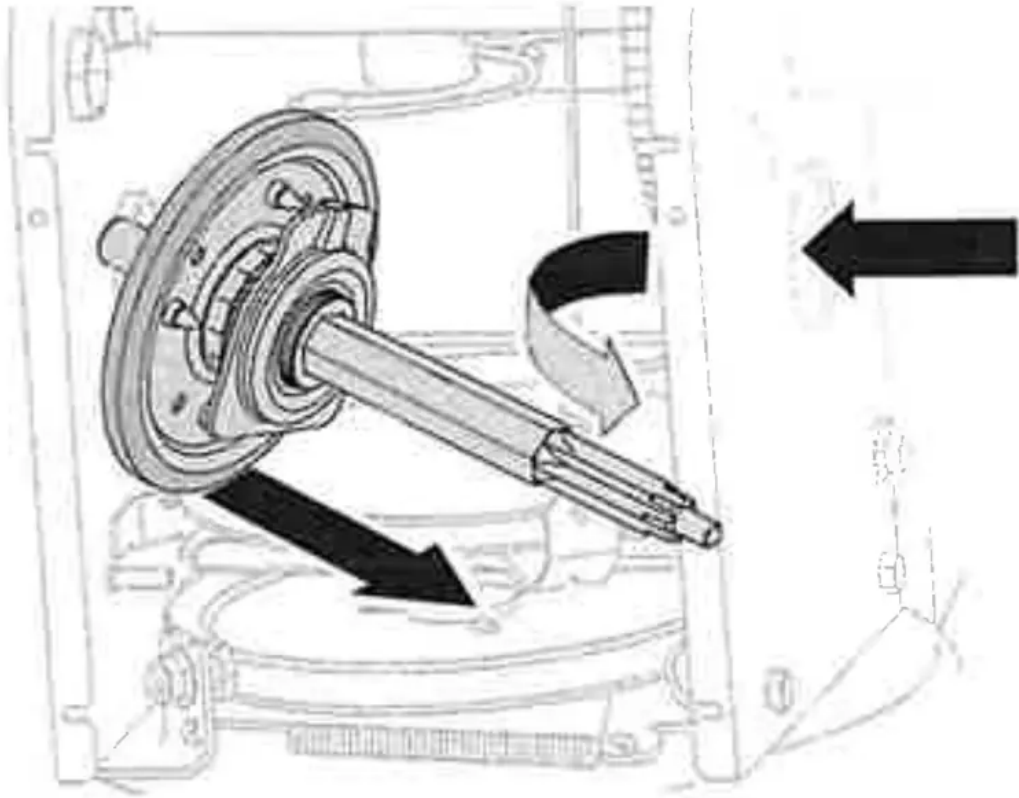

Figure 88
6. Carefully position hex shaft downward and to left before carefully sliding friction wheel assembly off shaft (Figure 88).